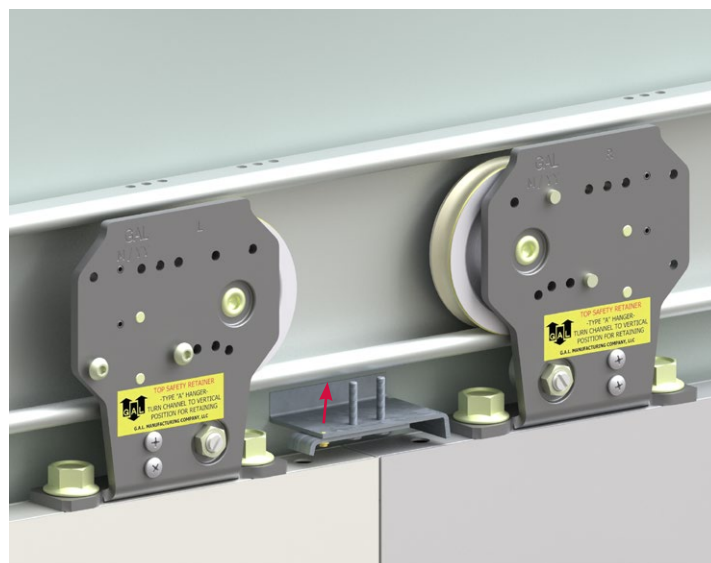

Figure 14: Center-stop Bottom Piece
3. Hold the bottom piece of the center-stop against the bottom of the track in the center of the track as shown in **Figure 14**.